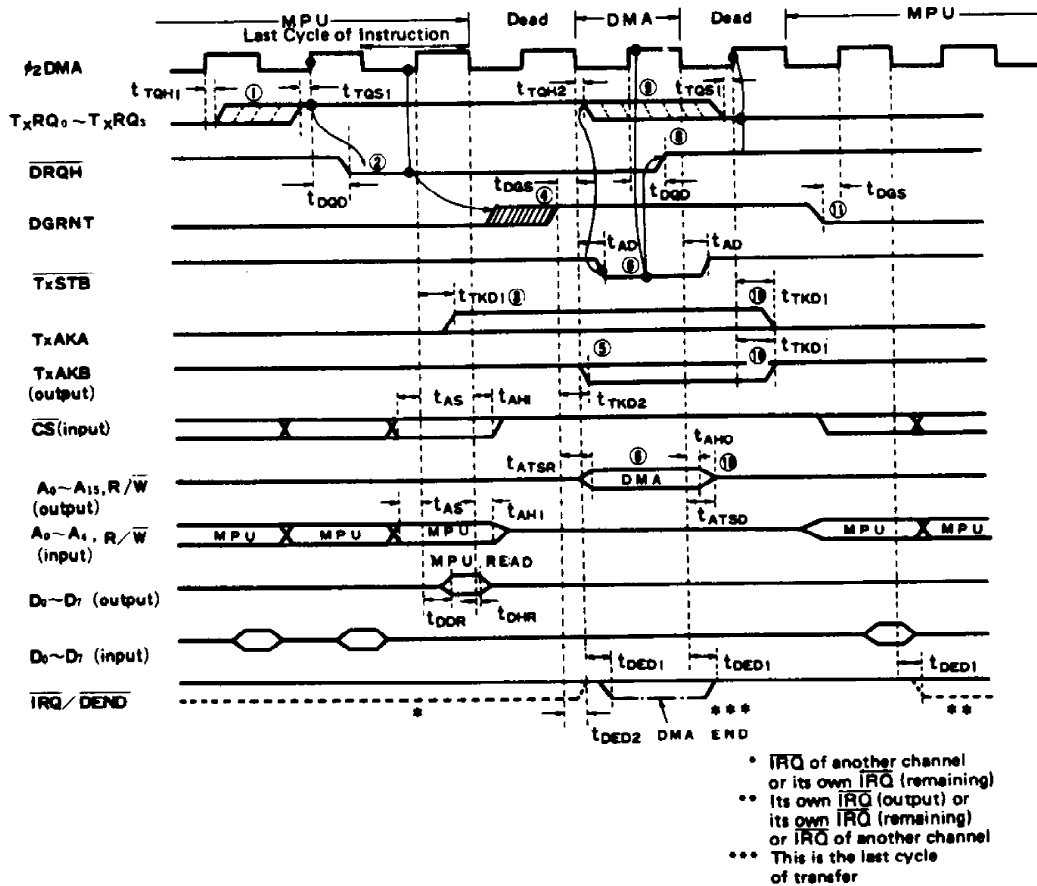
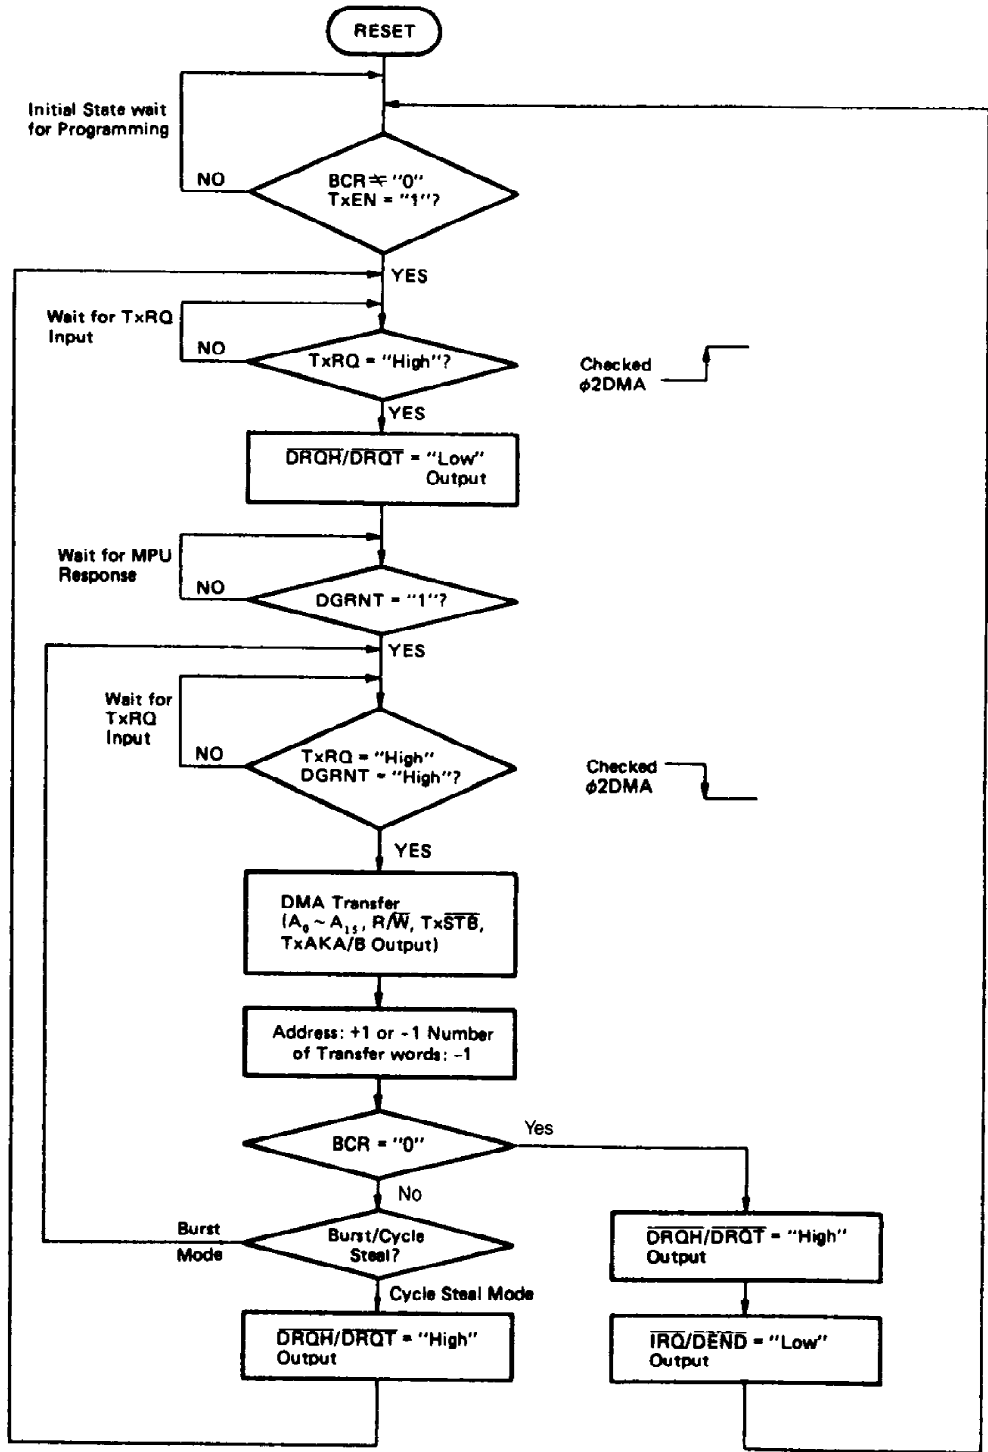
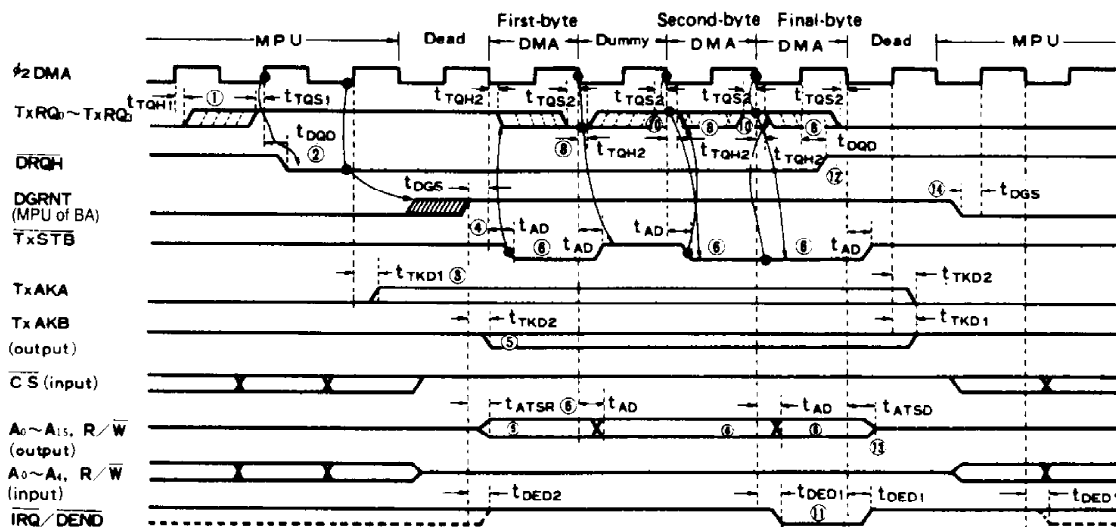
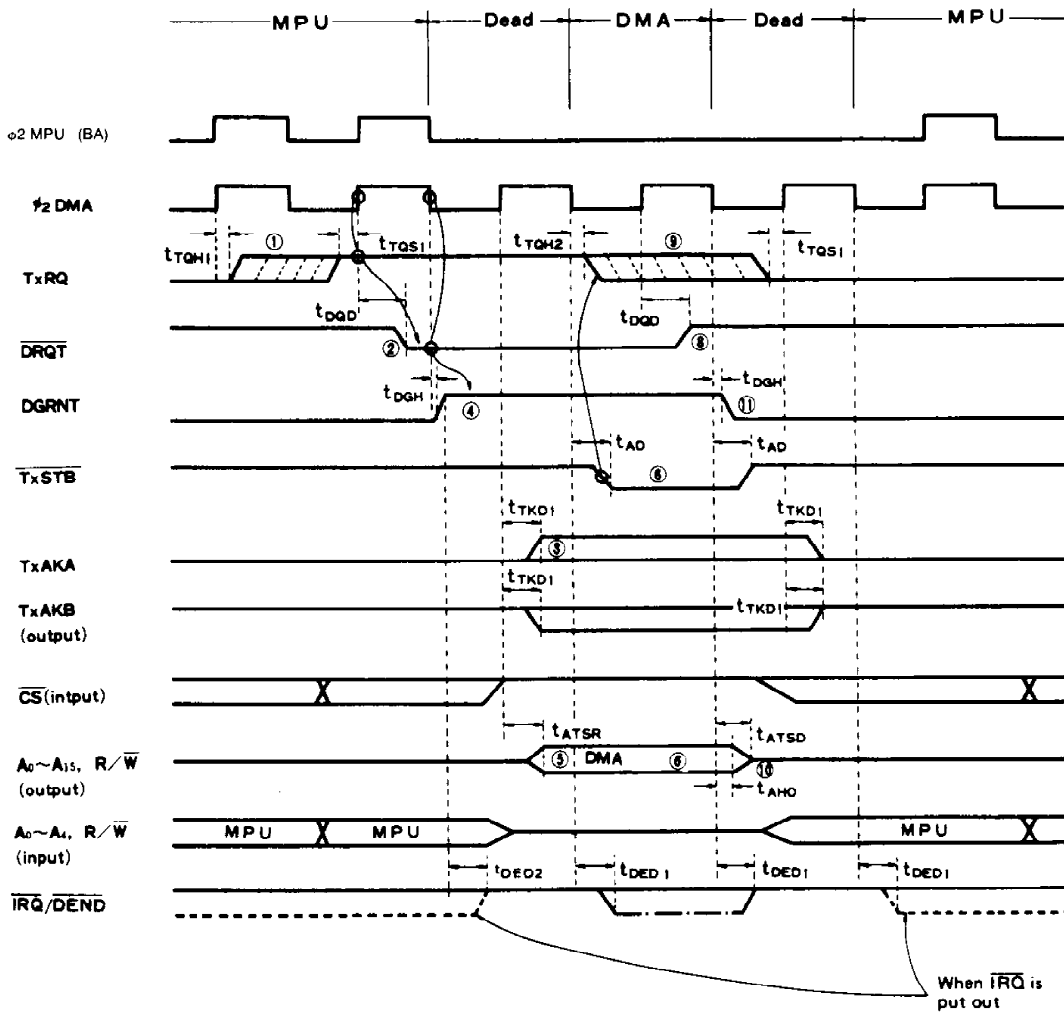

Figure 12 HALT Cycle Steal Mode
Figure 13 Flow Chart of DMAC Operation
Figure 16 HALT Burst Mode
Figure 17 TSC Cycle Steal Mode
Timing chart is shown in Fig. 12 and flow chart is shown in Fig. 13. Procedure of transfer operation is the following. (No. ① ~ ⑭ in Fig. 12 correspond to the following items.)
- ① TxRQ₀~TxRQ₃ input is checked at the rising edge of ϕ_2 DMA. When it is at "High" level, it gets into the following operation.
- ② DRQH="Low" is output and MPU is requested to stop its operation.
- ③ TxAKA is driven (Level output).
- ④ MPU stops its operation and DMAC waits until DGRNT goes to "High" level.
- ⑤ When DGRNT goes to "High" level, DMAC drives TxAKB, A₀~A₁₅ and R/W lines.
- ⑥ TxSTB is given to perform DMA transfer.
- ⑦ Address is incremented or decremented by one and number of transfer words is decremented by one.
- ⑧ When DRQH rises to "High" level, MPU gets into Instruction Cycle again.
- ⑨ TxRQ falls to "Low" level.
- ⑩ A₀~A₁₅ and R/W get into high impedance state again.
[Note] TxRQ₀~TxRQ₃ input in HALT cycle steal is, in principle as shown in Fig. 12, set to "High" every 1-byte transfer on account of I/O request. When TxSTB of the DMAC is driven, it is reset to "Low". Take care not to be against this principle, or the following states may happen.
Its timing chart and flow chart are shown in Fig. 16 and Fig. 13 respectively. Procedure of transfer is the following (No. ① ~ ⑭ in Fig. 16 correspond to the following items).
- ① TxRQ input is checked at the rising edge of ϕ_2 DMA. When it is at "High" level, it gets into the following operation.
- ② \overline{DRQH} ="Low" level is given and MPU is requested to stop its operation.
- ③ TxAKA is driven.
- ④ MPU stops and DMAC waits for DGRNT rising "High" level.
- ⑤ When DGRNT rises "High" level, DMAC drives TxAKB, $A_0 \sim A_{15}$, and R/W lines.
- ⑥ TxSTB is sent out to perform DMA transfer.
- ⑧ TxRQ falls to "Low" level.
- ⑨ When number of transfer words is 0, from ⑪ to ⑭ operations are performed.
⑩ When BCR is not "0", TxRQ is checked at the falling edge of ϕ_2 DMA. When TxRQ is at "High" level, DMA transfer is performed through ⑥ ~ ⑧ again. When TxRQ is not at "High" level, DMAC waits for becoming "High" level.
In burst mode, TxRQ should be also, in principle, set to "High" when I/O request is asserted, and reset to "Low" when \overline{TxSTB} goes to "Low". If TxRQ is asserted as level input without being reset, DMA transfer is performed at all cycles of ϕ_2 DMA since TxRQ is always at "High" level at the falling edge of ϕ_2 DMA. Its example is shown in the second-byte and the third-byte transfer in Fig. 16.
Its timing chart and flow chart are shown in Fig. 17 and Fig. 13 respectively.